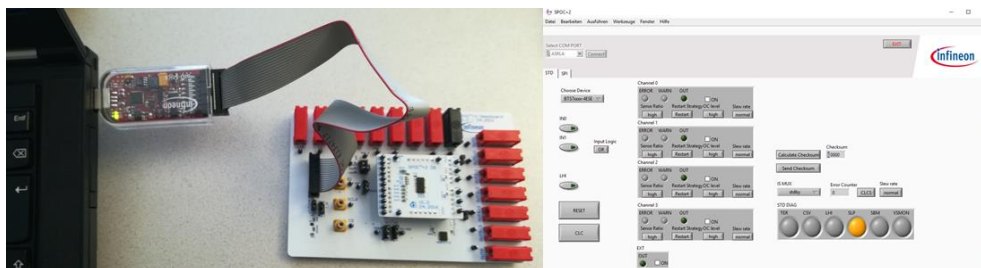

Figure 13 - Finished setup
- Connect the  $\mu$ O-Stick to your computer and run the SPOC™+2-Application. (see Figure 13)